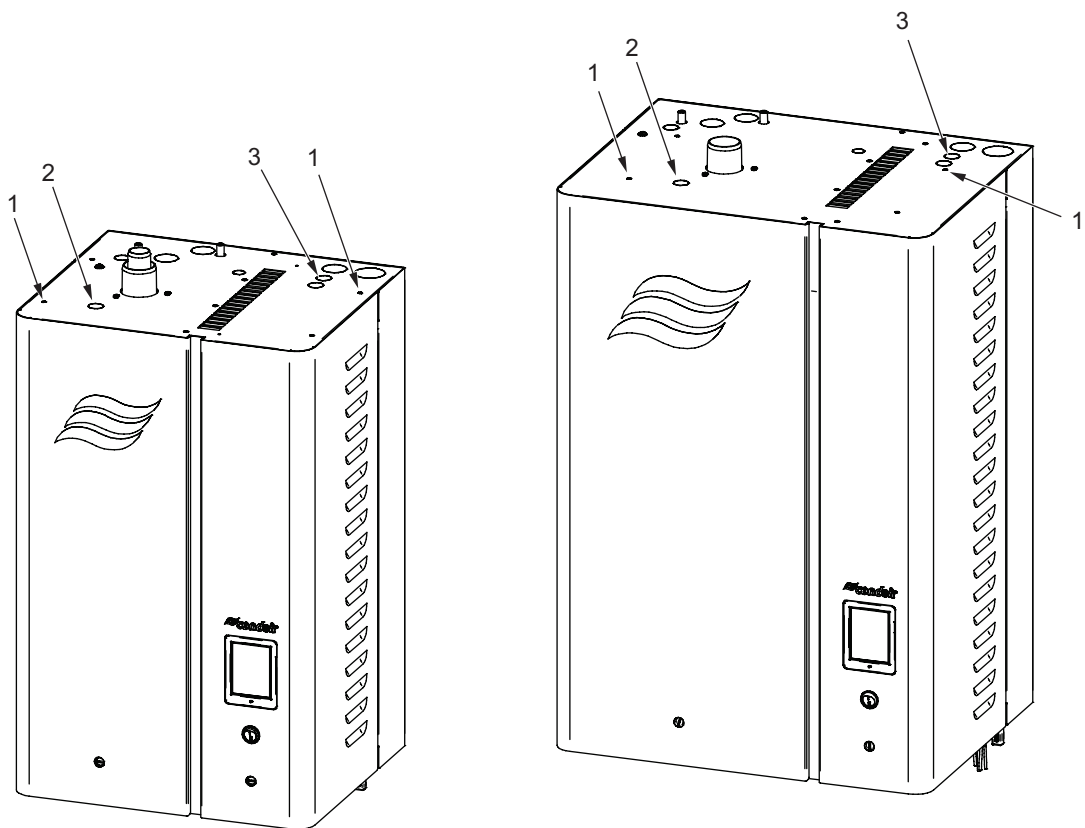

Figure 17: Knockout Holes in Top of Humidifier
1. **Punch Knockouts.** Punch the following knockouts in the top of the humidifier. Refer to Figure 17. Locations vary depending on the humidifier type.